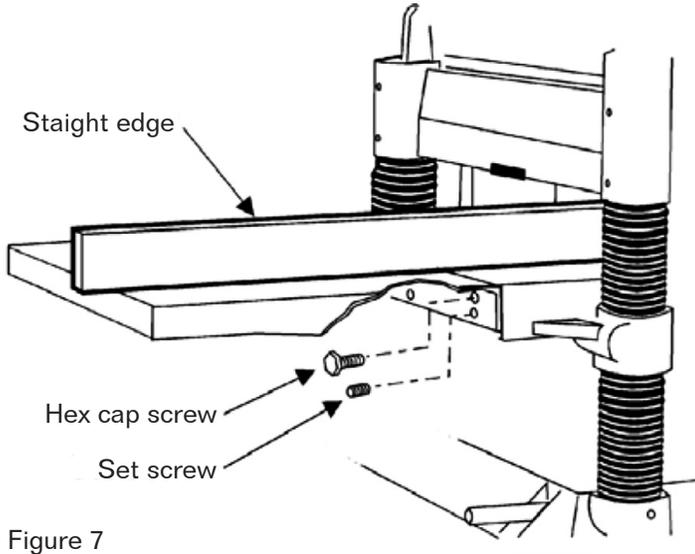

Figure 7
1. Mount a cast iron table to the edge of the main table with three M8 x 25 hex cap screws (Figure 7). Do not fully tighten yet.